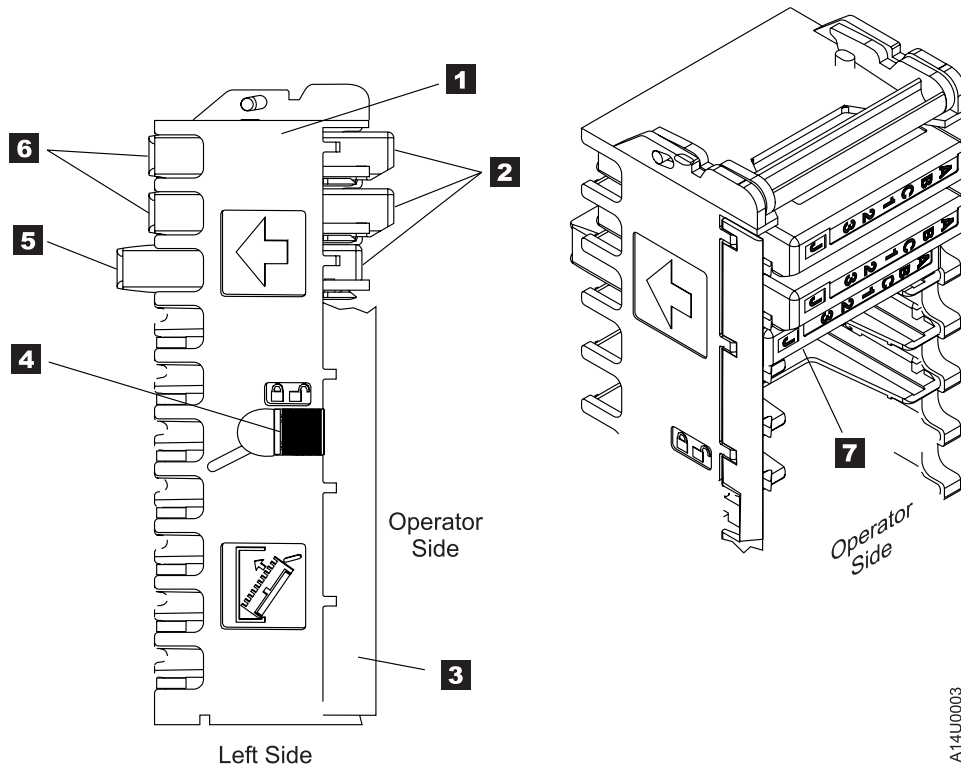

Figure 6-3. 3590 Magazine Cartridge Positions – Left View
Figure 6-3 shows a partially loaded magazine. The magazine **1** has two positions for the cartridges **2** to be positioned.
**Note:** The magazine cartridge lock **4** in Figure 6-3 on page 6-5 must be in the unlocked position before you insert or remove cartridges from the magazine. The door **3** of the magazine **1** will be damaged if cartridges are moved with the magazine lock in the locked position.
**Note:** Always engage the magazine lock **4** (Figure 6-3 on page 6-5) before you transport a loaded magazine to avoid dropping the cartridges or shifting their position in the magazine.
The magazine has a door **3** in Figure 6-3 on page 6-5 that extends along the entire length of the magazine. The door is located at the front left side of the magazine when viewed from the front. A hand-operated slider is located in the middle of the magazine frame. The two positions for the magazine lock are: